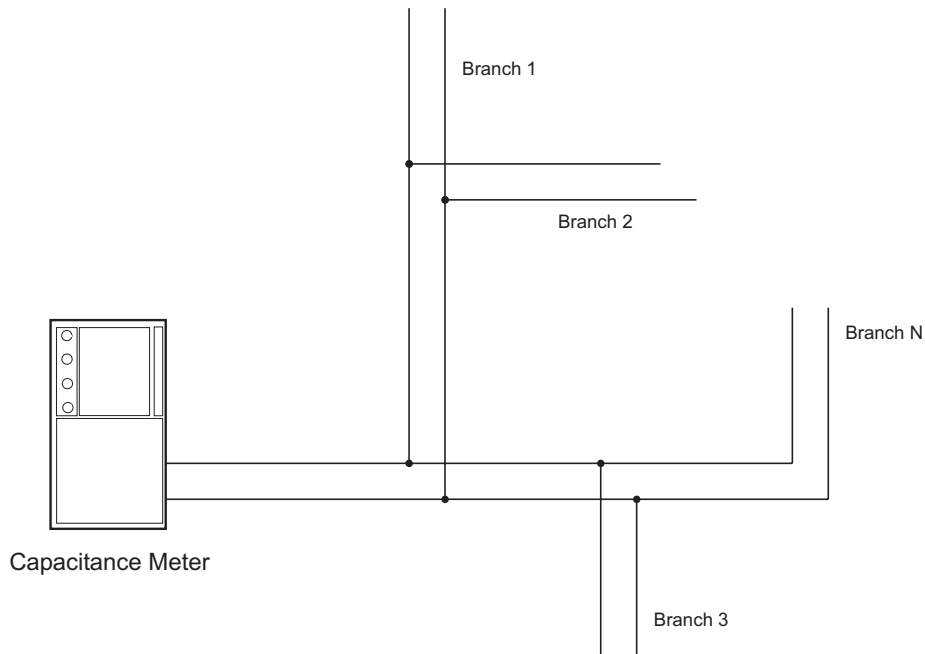

Figure 2-11. Measuring Class-B SLC Wiring Capacitance
2. Measure the capacitance from the terminating points at the control unit using a capacitance meter. See Figure 2-11.